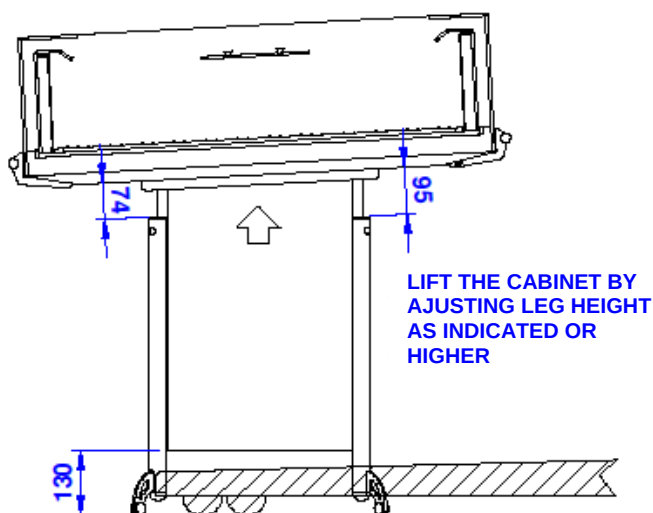

Fig . 1
- 1) lift the display case to the highest allowable position, as shown in fig. 1 (see chapter 8.6.2).
- 2) fit the brackets (fig. 1 and 2).